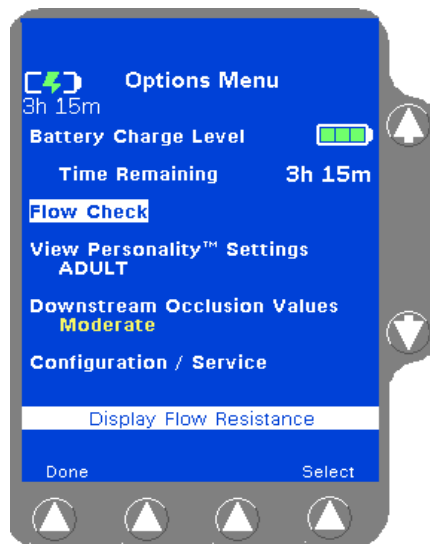

Figure 4-108 Options Menu
1. Press the **Options** soft key from the Main Display to access the Options Menu shown in Figure 4-108.